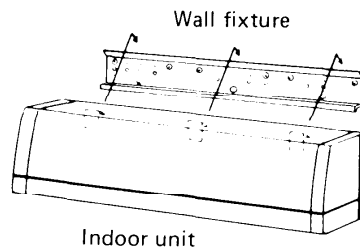

Fig. 15
- e) Hang the unit on the wall fixture. Fig. 15